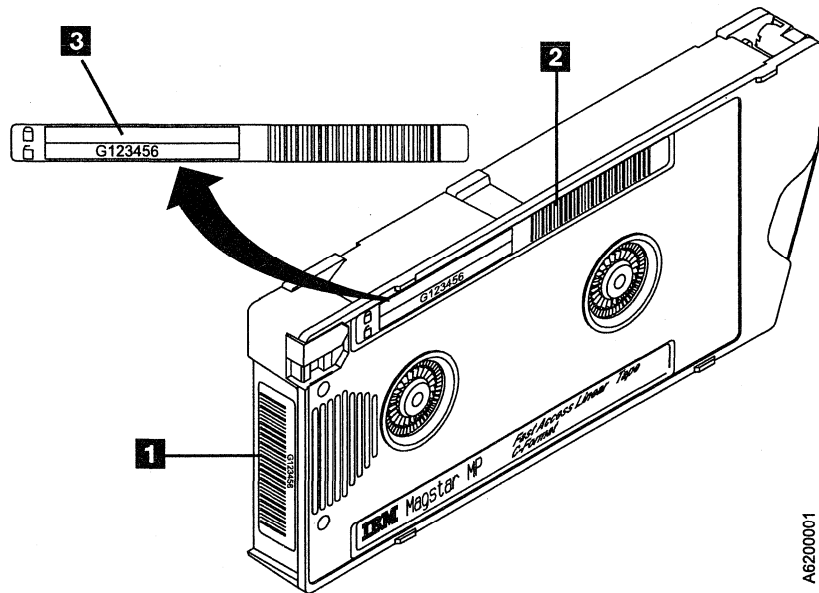

Figure 107. Magstar MP Tape Cartridge Labels
The bar code label that comes attached to each cartridge has a small space in which you may write (see **3** in Figure 107 on page 162). Any information that you write on the label should be written only with markers that do not smear or leave a thick residue.
- The bar code is located on two labels on the Magstar MP cartridge. (See **1** and **2** in Figure 107 on page 162.)
3. Orient the labels on the cartridge, as shown in Figure 107.